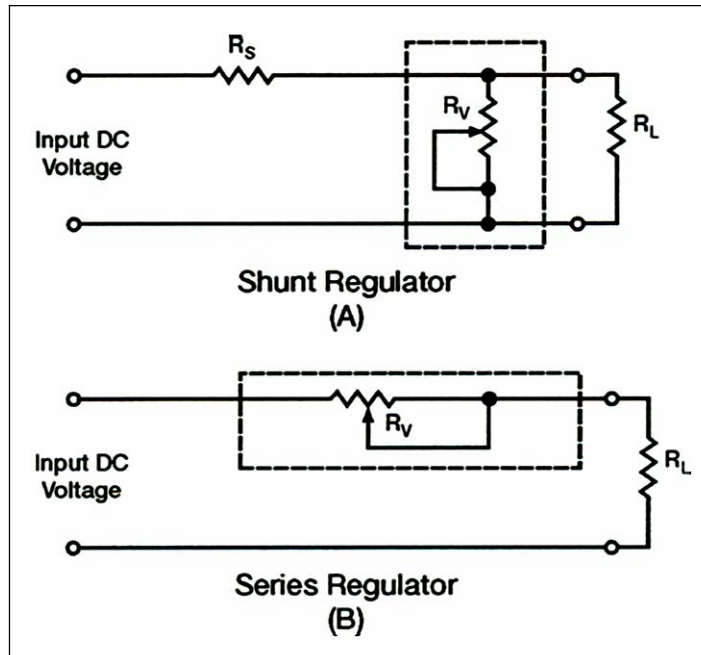

Figure 4-31. Simple Series and Shunt Voltage Regulators
4-97. The two basic types of voltage regulators are classified as either SERIES or SHUNT. The type depends on the location or position of the regulating element(s) in relation to the circuit load resistance. Figure 4-31 shows these two basic types of voltage regulators. In actual practice, the circuitry of regulating devices may be quite complex. Broken lines have been used in the figure to highlight the differences between the series and shunt regulators.
4-98. The schematic drawing in Figure 4-31, view (A) is that of a shunt-type regulator. It is called a shunt-type regulator because the regulating device is connected in parallel with the load resistance. The schematic drawing in view (B) is that of a series regulator. It is called a series regulator because the regulating device is connected in series with the load resistance. Figure 4-32 shows the principle of series voltage regulation. Notice that the regulator is in series with the load resistance (R_L) and that the fixed resistor (R_s) is in series with the load resistance.